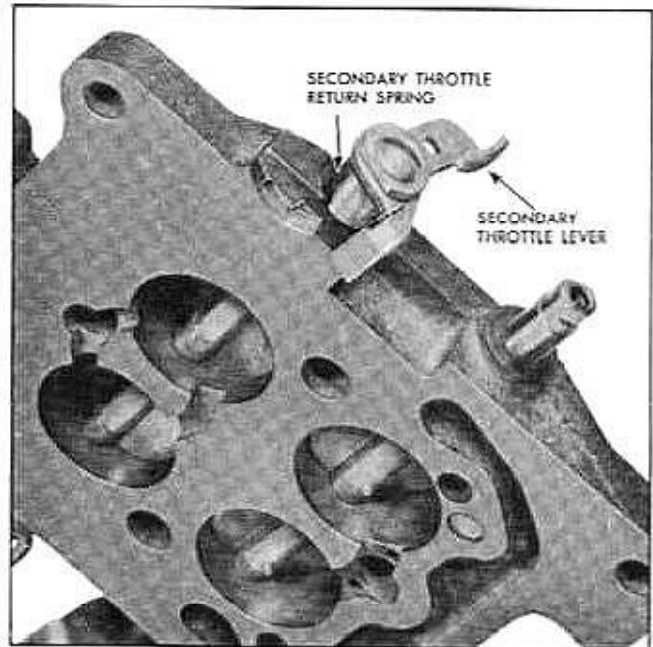

Fig. 6B-19 Proper Assembly of Secondary Throttle Lever
4. Install secondary throttle return spring and secondary throttle lever (Fig. 6B-19).